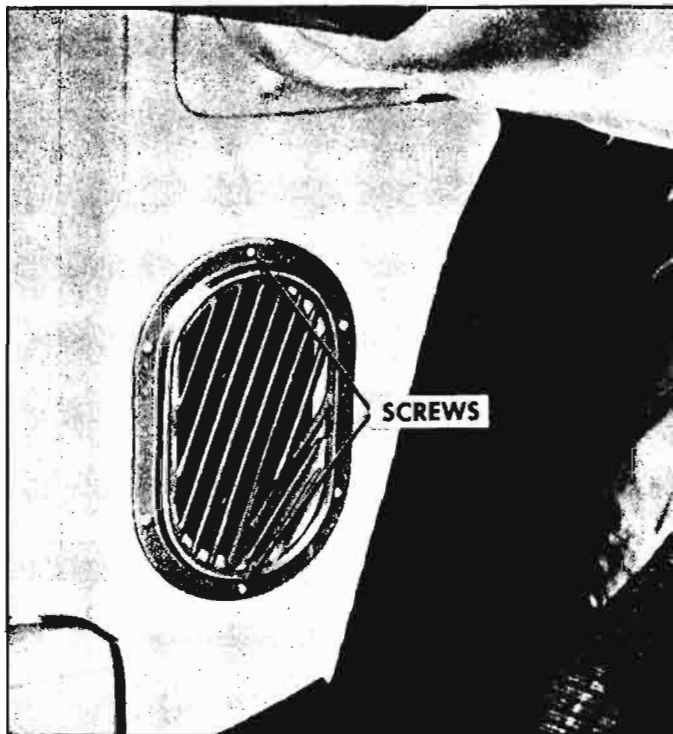

Fig. 10-24—Cowl Trim Pad
1. Remove screws (fig. 10-24) securing air outlet grille.